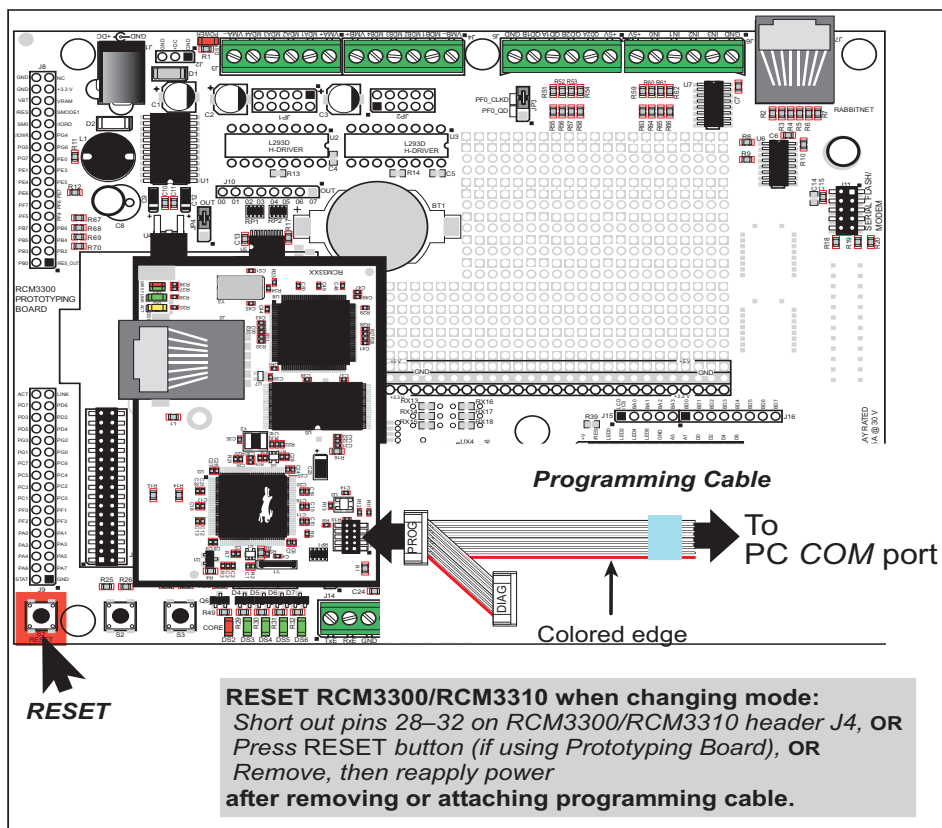

Figure 8. Switching Between Program Mode and Run Mode
2. Reset the RCM3300/RCM3310. You may do this as explained in Figure 8.